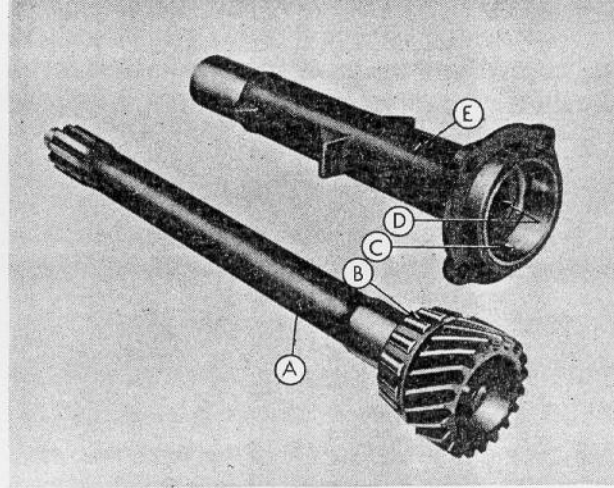
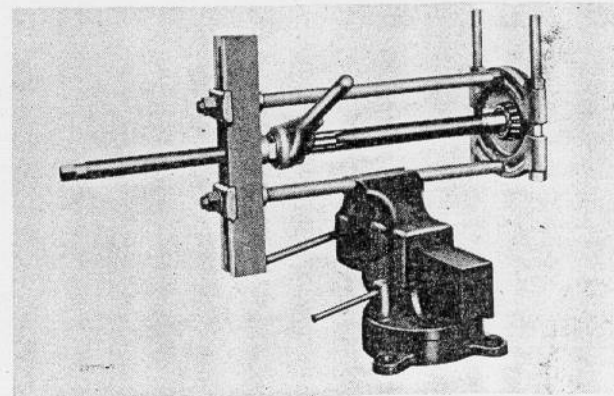
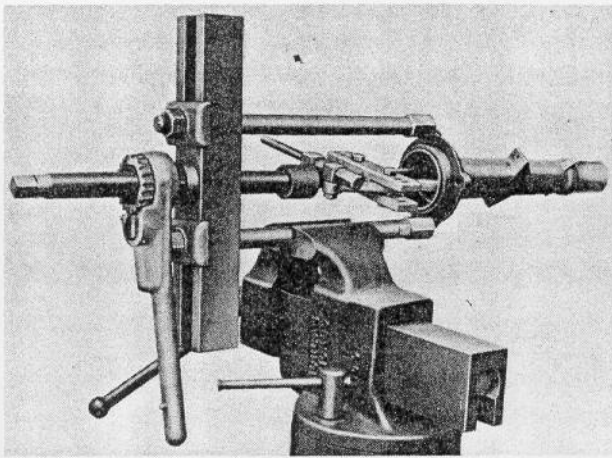
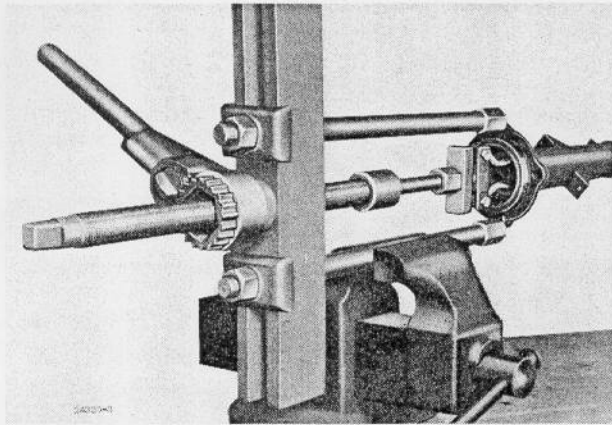

Fig. 20
Fig. 21
Fig. 22
Fig. 23
- a. Remove the main drive shaft, gear, and bearing assembly (A-Figure 20) from the retainer (E-Figure 20).
- b. For training purposes, when using a tractor in which the main drive gear bearing is undamaged, *do not* remove the bearing. Remove the bearing (B-Figure 20) from the main drive shaft as shown in Figure 21.
- c. Remove the bearing cup (C-Figure 20) as shown in Figure 22.
- d. Remove the oil seal (D-Figure 20) as shown in Figure 23.